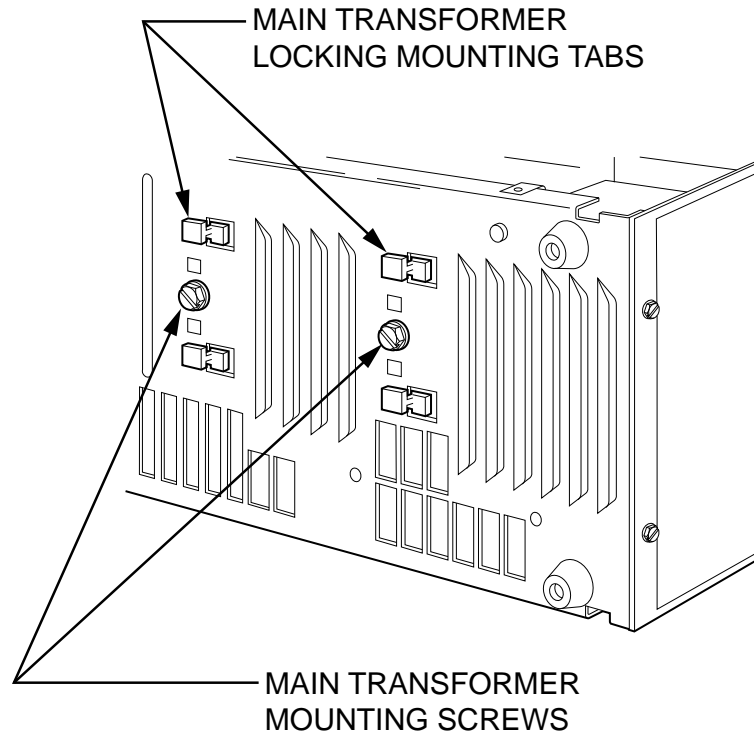

Figure F.25 Main Transformer Mountings
13. With 3/8" wrench remove the two screws mounting the transformer assembly to the base of the machine. See **Figure F.25**. Note: The machine will have to be tilted on its side to gain access to the bottom of the unit.